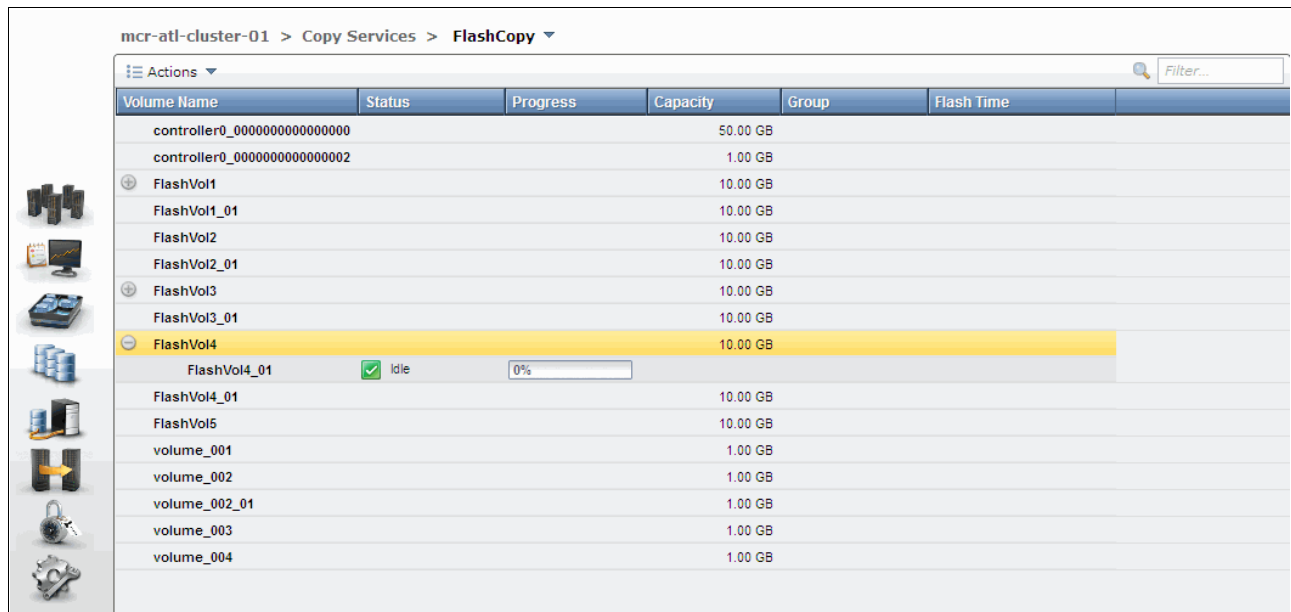
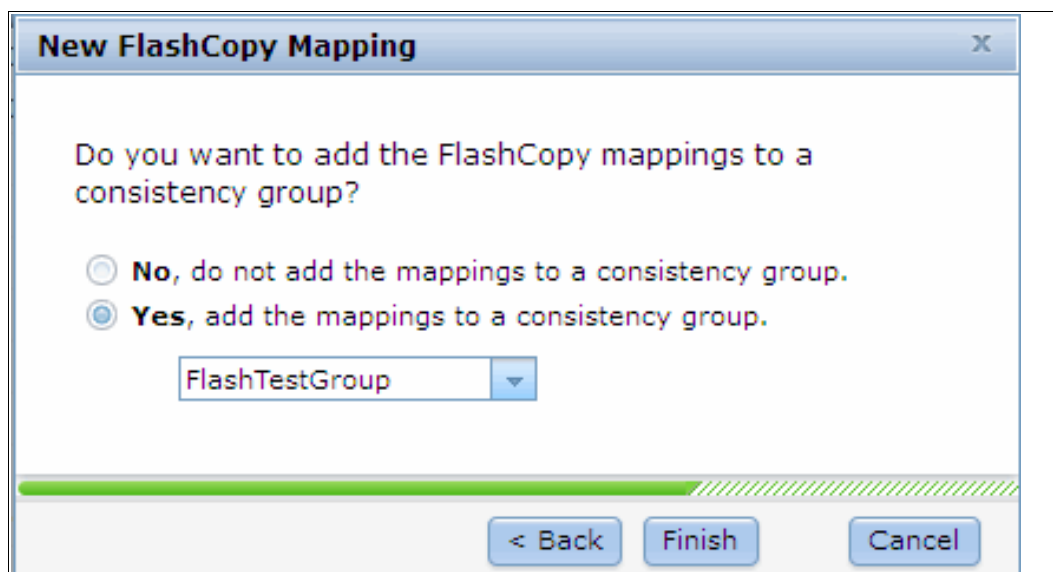

Figure 10-24 New FlashCopy mapping is created with a new target
Figure 10-29 Select a consistency group to add the FlashCopy mapping
- Close the window to see the FlashCopy mapping that is created on your volume with a new target, as shown in Figure 10-24. The status of the newly created FlashCopy mapping is Idle; it can be started, as described in “Starting a FlashCopy mapping” on page 477.
5. You can now add the FlashCopy mapping to a consistency group (if necessary), as shown in Figure 10-29. Selecting **Yes** shows a drop-down menu from which you can select a consistency group. Click **Finish** and the FlashCopy mapping is created with the status of Idle, as shown in Figure 10-24 on page 473.